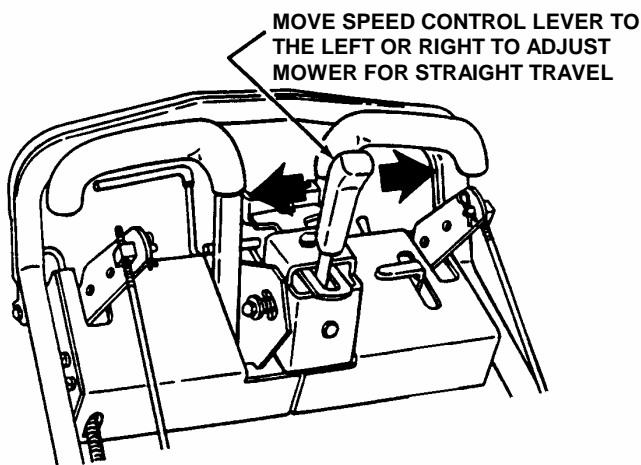

FIGURE 3.5
5. Adjust Speed Control Lever to a comfortable travel speed. See Figure 3.5.
6. Proceed to go forward while allowing the machine to travel in a straight line. If the machine tracks towards the LEFT or RIGHT, it can be brought back to a straight path by moving the Speed Control Lever in the desired direction of travel. See Figure 3.5.
8. Proceed to go forward while allowing machine to travel in a straight line. If the machine has a tendency to track towards the LEFT or RIGHT, it can be brought back to a straight path by moving Speed Control Lever in the desired direction of travel. See Figure 3.5.